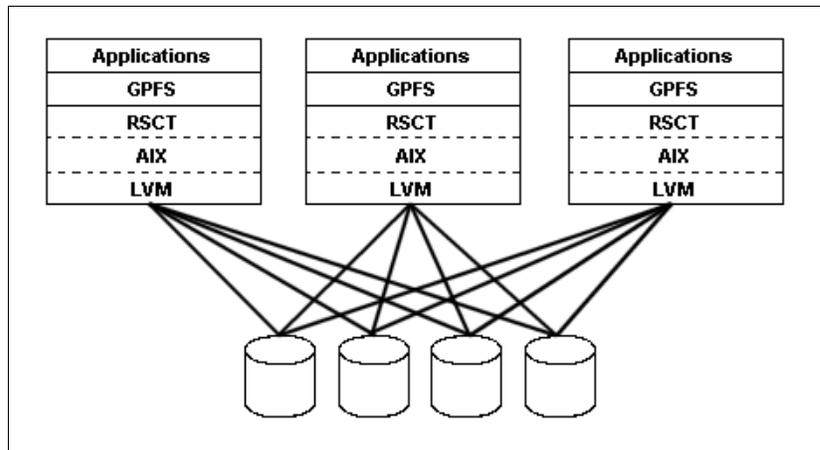

Figure 11-12 An AIX HACMP environment
- The Group Services component - coordinating and synchronizing the changes across nodes in the HACMP cluster, thereby maintaining the consistency in the cluster. Refer to Figure 11-12.